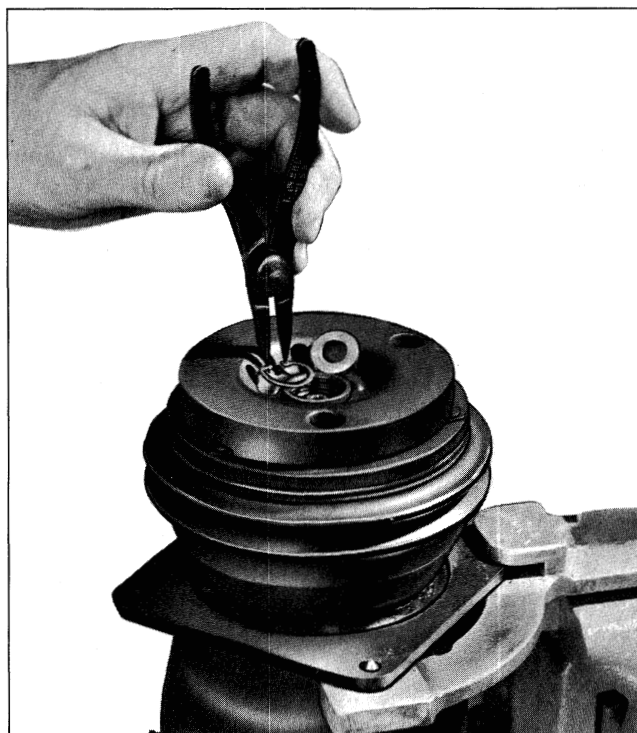

Fig. 4-16 Removing Hub Retainer and Spacer
3. Remove hub and drive plate assembly retainer ring, using J-5403 (No. 21 Truarc pliers). Remove spacer (Fig. 4-16).